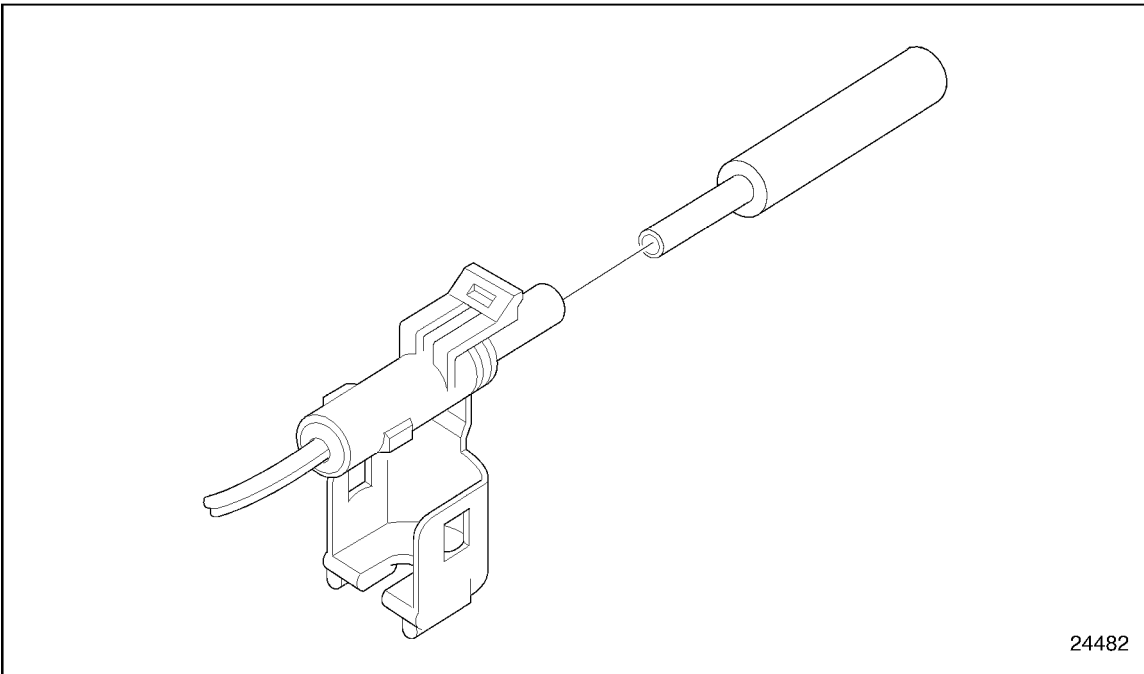

Figure 8-11 **Removal Tool Procedure**
5. Grasp the cable and push it forward through the connector cavity into the tool while holding the tool securely in place. See Figure 8-11.